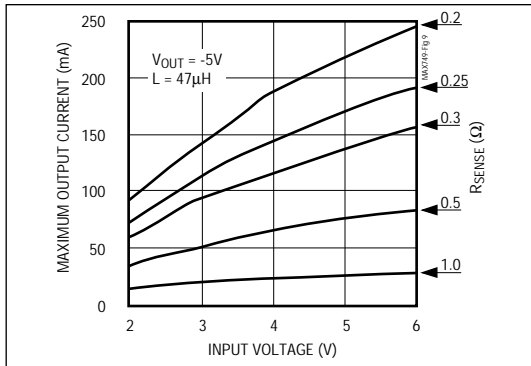

Figure 9a. Maximum Output Current vs. Input Voltage,  $V_{OUT} = -5\text{V}$
To maximize efficiency and reduce the size and cost of the external components, minimize the peak current. However, since the output current is a function of the peak current (Figures 9a-9e), the limit should not be set too low.
- In Figures 9a-9e, locate the graph drawn for the appropriate output voltage (which is either the desired output voltage or, if that is not shown, the graph for the nearest voltage more negative than the desired output). On this graph find the curve for the highest  $R_{SENSE}$  (the lowest current limit) with an output current that is adequate **at the lowest input voltage**.
The theoretical design curves shown in Figures 9a-9e assume the minimum (worst-case) value for the current-limit comparator threshold. Having selected the current-sense resistor, the maximum current limit is given by  $180mV/R_{SENSE}$ . Use the maximum current-limit figure when choosing the transistor, coil, and diode.